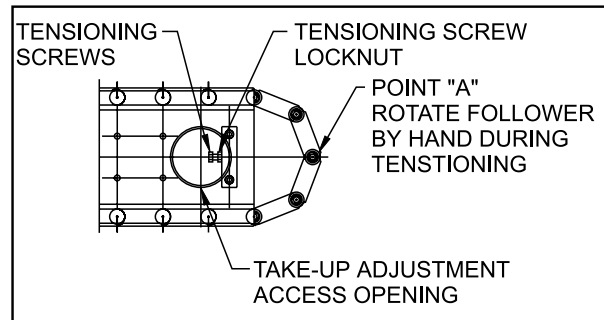

Fig. 2. Conveyor re-tensioning.
4. Once the locking screws have been loosened, remove the round access cover for the tension adjusting screw. Refer to Figure 2.
5. Hand crank the index drive input reducer until a link pin follower is positioned at the high point of the take-up cam (point "A" as shown in Figure 2).